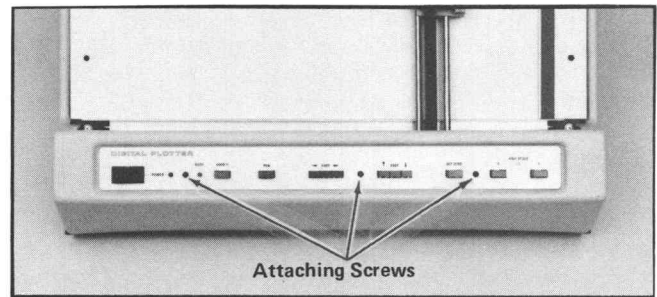

Fig. 3-5. Case and front panel attaching screws.
4. Remove the six allen screws that attach the Plotter case to the frame. Three are located on the front panel, and three are located at the rear. Remove the case and the front panel (Figs. 3-5 and 3-7).
1. Replace the case on the frame, and place the front panel in position on the case. Install the attaching screws (Figs. 3-5 and 3-7).